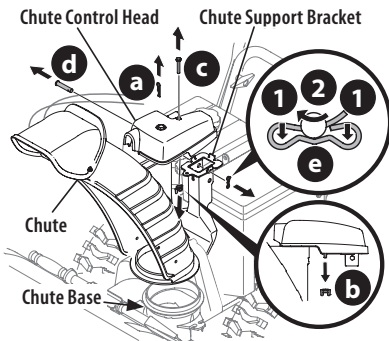

Figure 35
- Remove cotter pin (a), wing nut (b) and hex screw (c) from chute control head. Remove clevis pin (d) and bow-tie cotter pin (e) from chute support bracket (Figure 35).